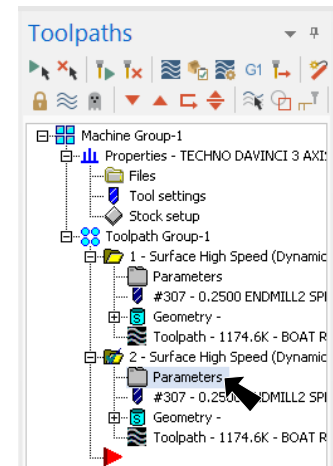

Fig. 25
Step 2. Copy Roughing toolpath in the Toolpaths Manager. To copy, click to select toolpath, Fig. 26. Then, use **Ctrl-C** and **Ctrl-V**, Fig. 25.
Step 3. Expand **2 - Surface High Speed** and click **Parameters**, Fig. 25.